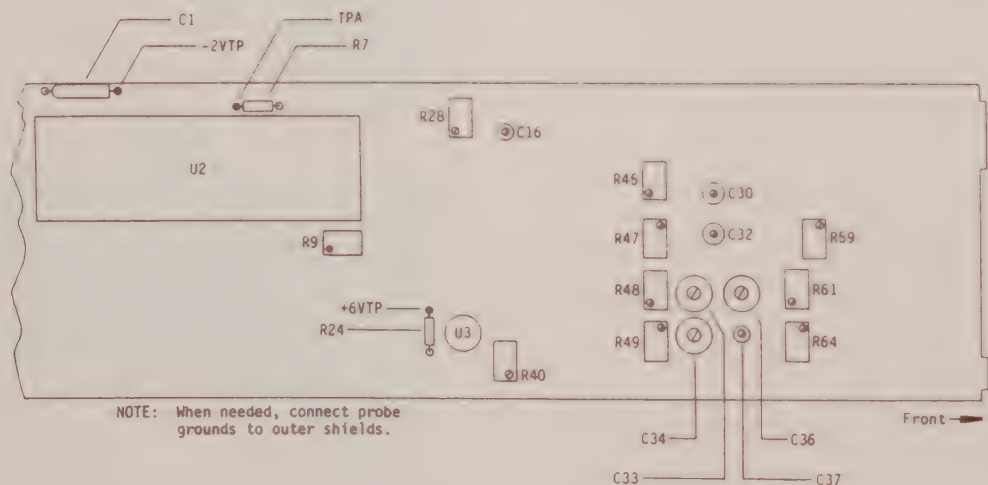

Figure 3-1
3.1.2. Measure the voltage at -2VTP, (Figure 3-1).
(See Figure 3-1)
3.1.4. Measure the voltage at +6VTP, (Figure 3-1).